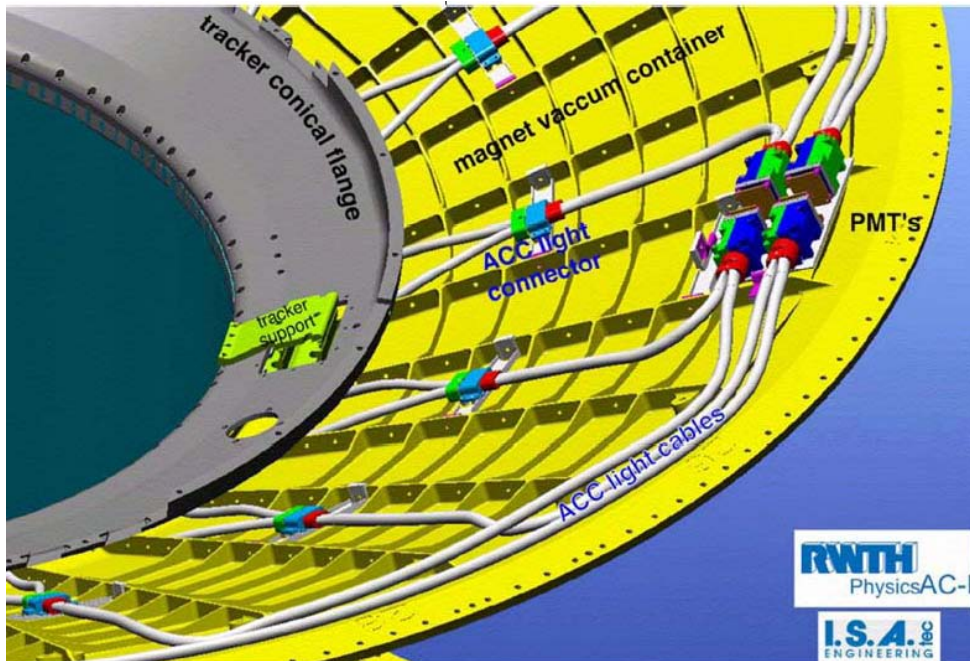

Figure 2: Routing of the Optical Fiber Cables from the ACC Scintillating Panels through the Transition Connectors to the PMTs
The scintillation light from particles passing through the panels are collected by 1 mm (diameter) wavelength shifting fibers (Kuraray Y-11 (200) M) that are embedded in grooves milled into the panel surface. A panel has two collection arrays, each consisting of 37 fibers. The embedded fibers are collected into two output ports of 37 fibers each at both ends of the panel. For each panel there are two transition connectors, one each located on the upper and lower conical flanges of the Vacuum Case. From these transition connectors the light is routed through clear fibers (Toray PJU-FB1000) up to the photomultiplier tubes mounted on the rim of the Vacuum Case (Figure 2)